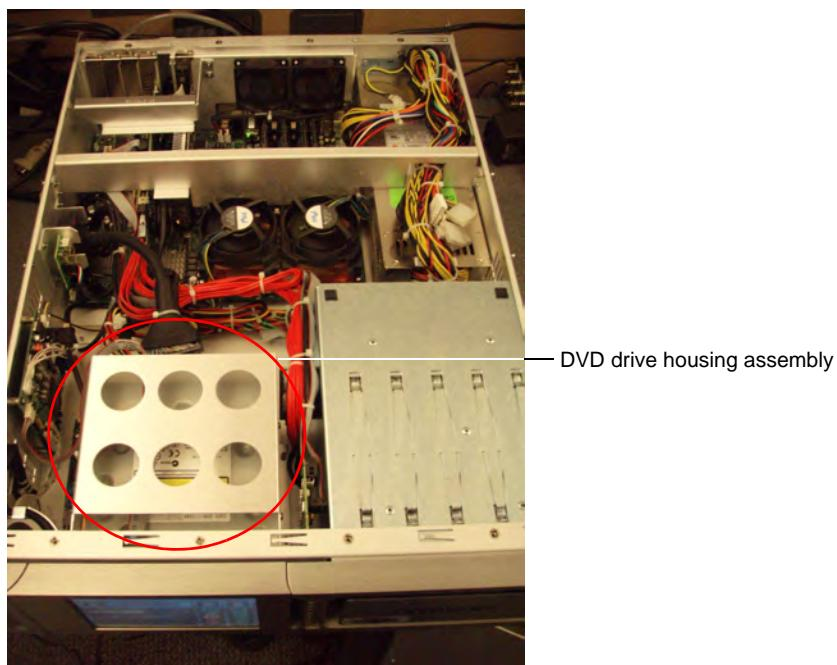

Figure 9 Locate DVD Drive Housing Assembly (Front View)
8. Remove the lid from the unit, then locate the DVD drive housing assembly, as shown in Figure 9.